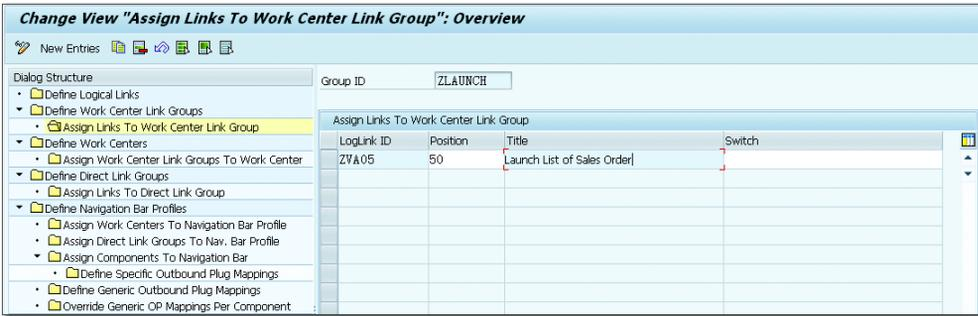

Figure 8.55 Assigning the Transaction Launcher Logical Link ID to the Work Center Link Group
- Go to the DEFINE WORK CENTER LINK GROUPS, and add the Transaction Launcher LOGLINK ID to it, as shown in Figure 8.54 and Figure 8.55.